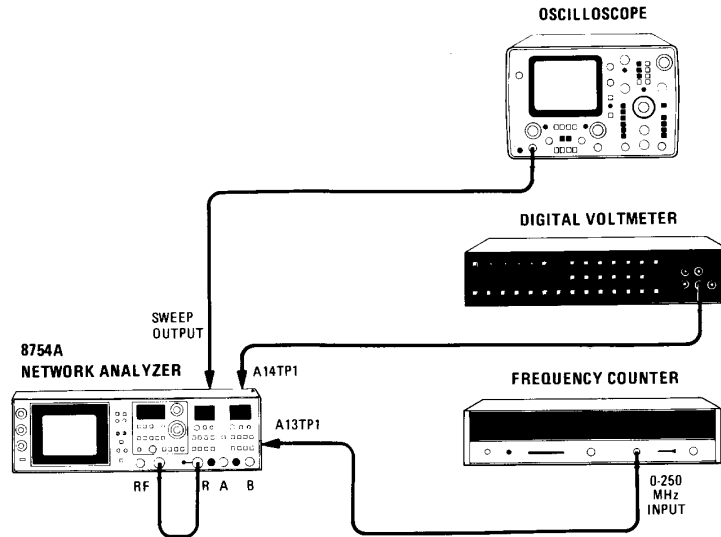

Figure 5-20. Phase-Lock Loop Adjustment Test Setup
- a. Connect equipment as shown in Figure 5-20.